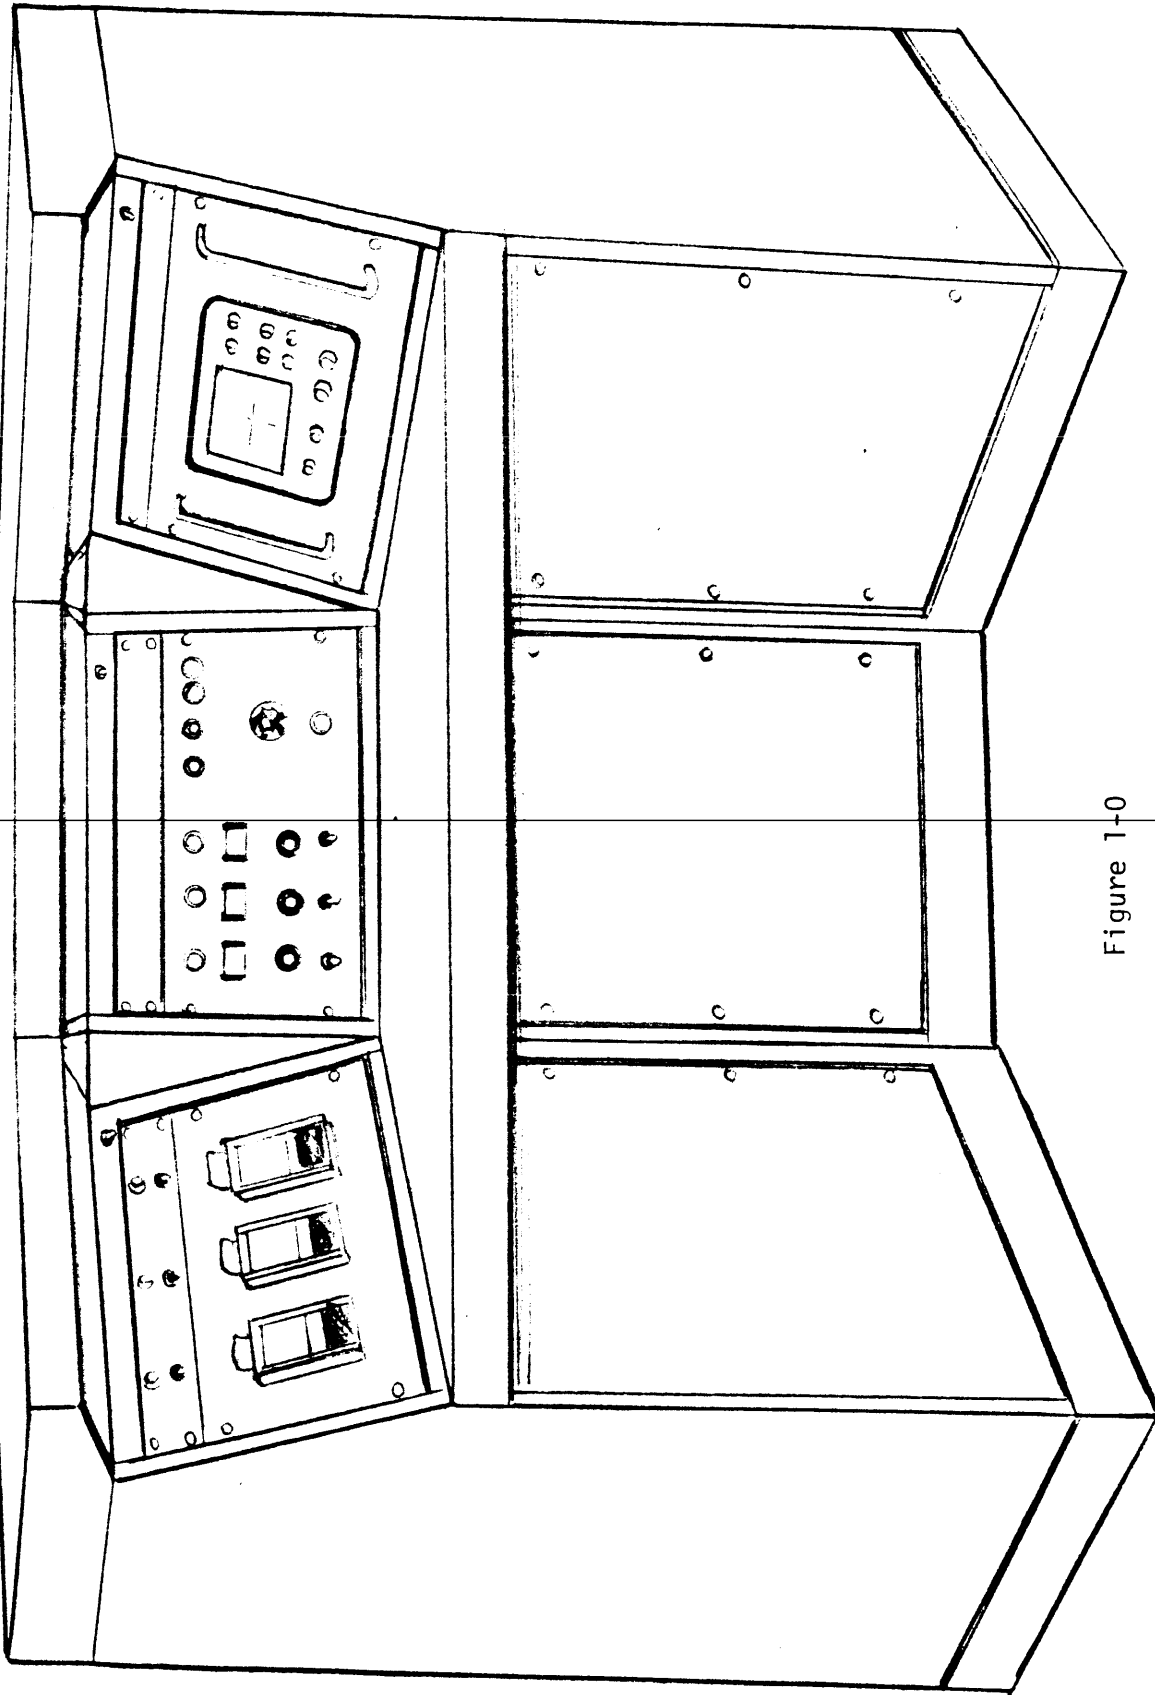

Figure 1-0
The CON-(S) hereafter to be referred to as console, is a three, rack U-shaped desk style cabinet, which houses from left to right three recorders, control components and oscilloscope. Refer to figure 1-0 for a pictorial representation.